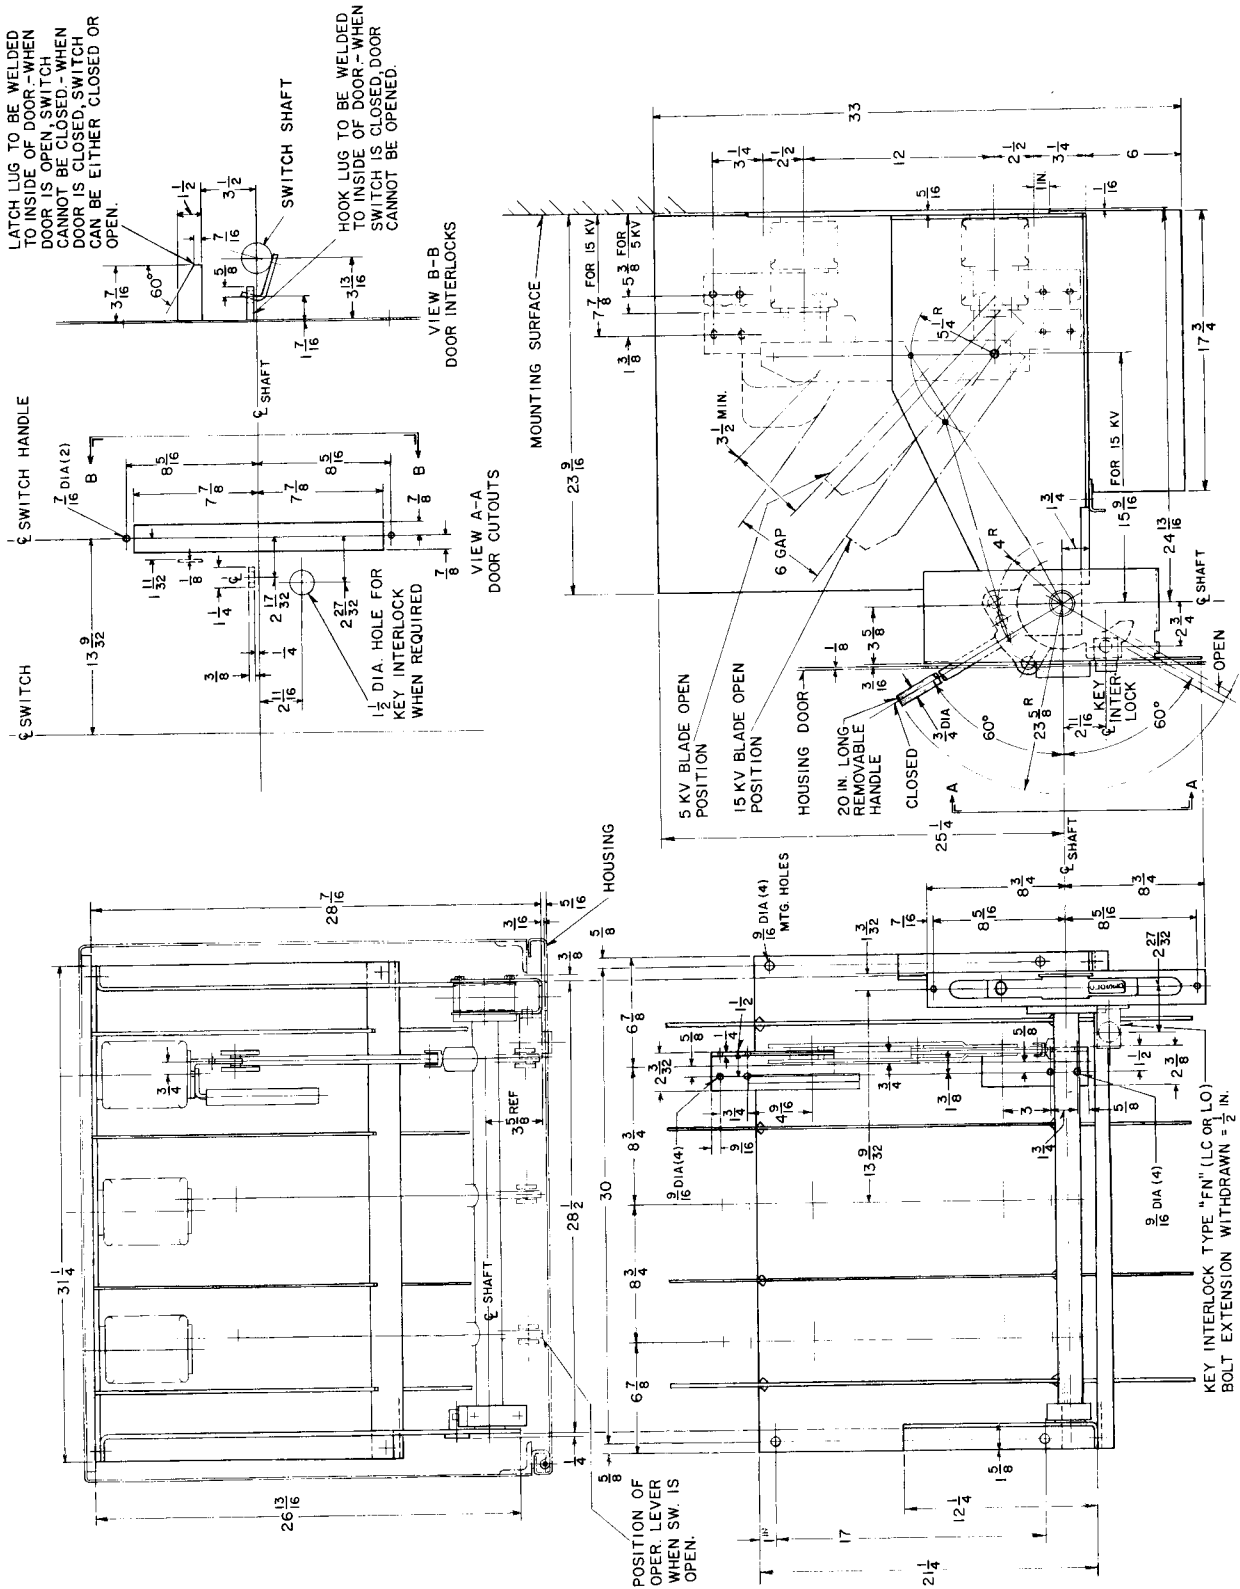

Figure 4 - Typical Outline LBF Switch
3.2 Mounting. Four holes $9/16$ " diameter for $1/2$ " bolts are provided in the base of the frame for mounting of the switch in the enclosure. This enclosure must have a slot in its front door as shown on the template drawing of Fig. 4, to clear the mechanism cam when it is rotated with the removable handle. Note on Fig. 4 the recommended distance of $1/4$ " between the back of the front door and the front of the switch frame.
3.4 Interlocks (See Fig. 4). Each switch is equipped with two automatic interlocks as follows:
3.2 Mounting. Four holes 9/16" diameter for 1/2" bolts are provided in the base of the frame for mounting of the switch in the enclosure. This enclosure must have a slot in its front door as shown on the template drawing of Fig. 4, to clear the mechanism cam when it is rotated with the removable handle. Note on Fig. 4 the recommended distance of 1/4" between the back of the front door and the front of the switch frame.